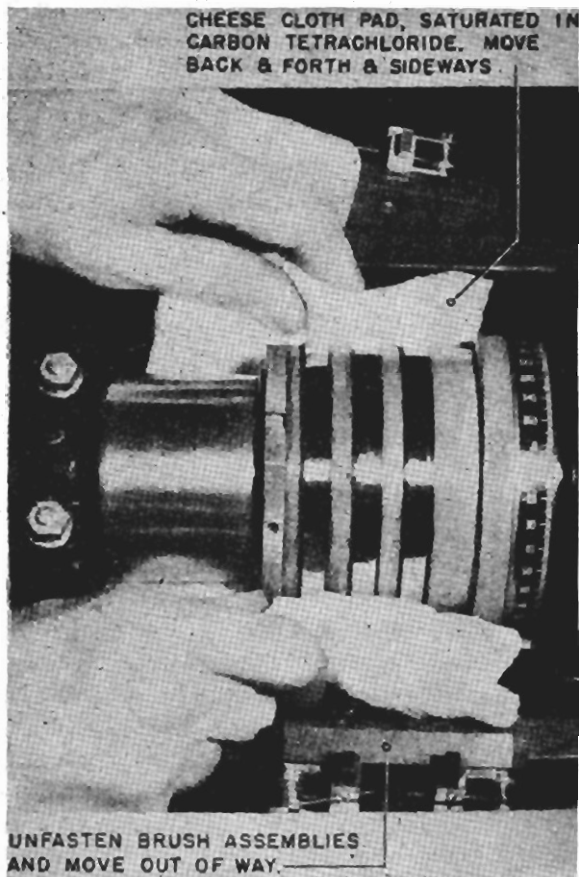

FIGURE 8.—Method of cleaning underneath the slip rings.
- (1) Turn master switch to OFF position.
- (2) Remove Bakelite brush holder mount screws from both assemblies, and allow entire units to hang over side of indicator, Figure 8.
- (3) Saturate a long narrow pad of cheesecloth approximately 4" x 10" in carbon tetrachloride and pass one end underneath the slip rings, while holding other end. Slowly rotate slip rings and feed pad until end of pad appears on other side.
(4) Pull pad back, forth and sideways, Figure 8, until all dirt, dust and grease are removed from the portion of rotating unit mount underneath slip rings.
(5) Remove pad and replace Bakelite brush holder mount assemblies taking care that they are restored securely to their former position.